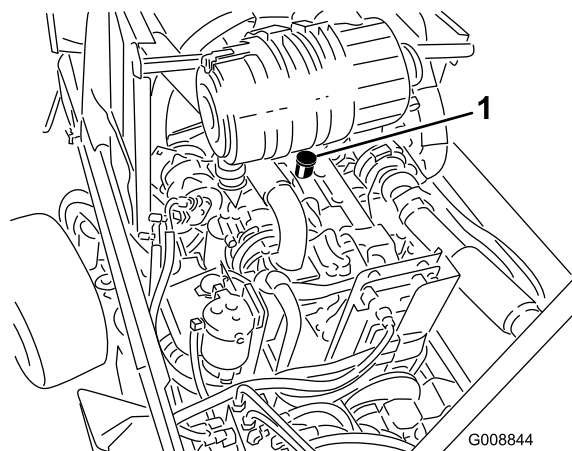

Figure 60
3. If the oil is below the Low mark, remove the oil-fill cap and add oil until the level reaches the Full mark (Figure 60).